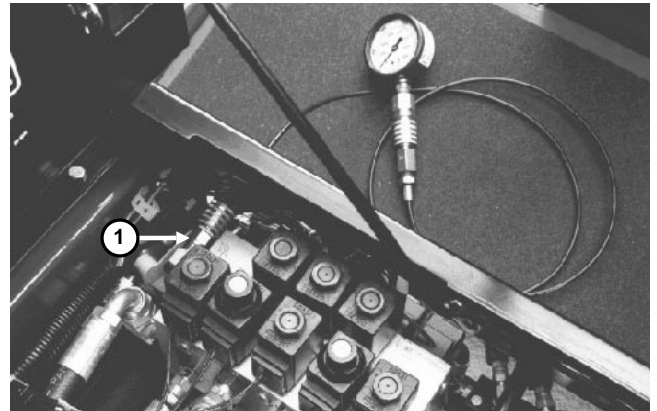

Figure 20a
3. Raise seat to get access to hydraulic test fittings. Remove access cover from in front of hydraulic valve block. Install a 5000 PSI gauge with extension hose onto quick disconnect fitting in port G2. Put gauge and hose through opening in front of hydraulic valve block as shown, then lower the seat (Fig. 20a).